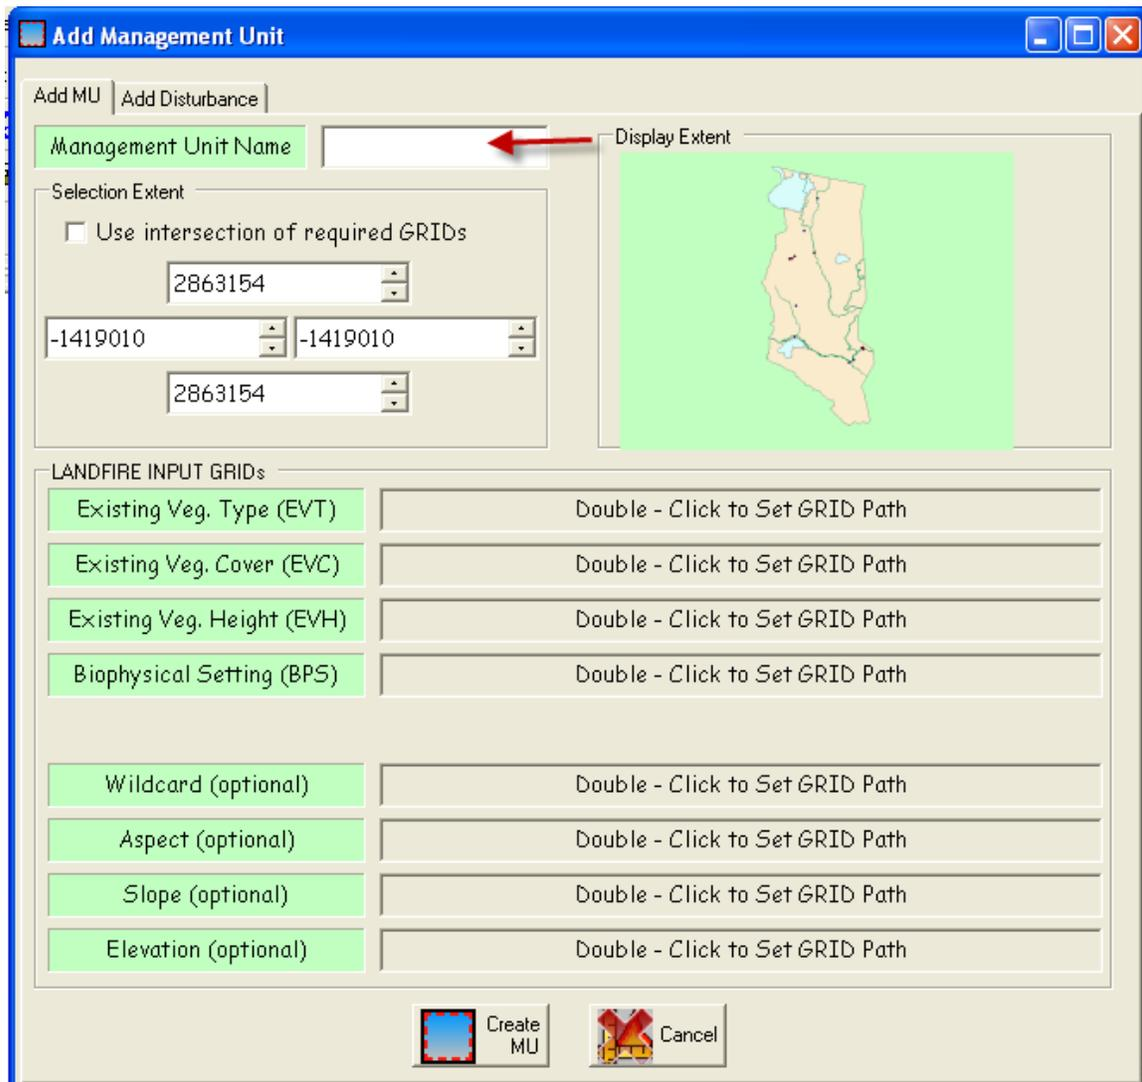

Figure 6-6. Select the Management Unit Name (**ADD MU** screen visible).
The **Add Management Unit** dialog box opens as shown with the **Add MU** tab visible (fig. 6-6).
- To use the drawing rectangle, drag your cursor to draw an extent rectangle in the “Display Extent” window of the dialog box (fig. 6-6).
- With the **Add MU** tab selected, type a **Management Unit Name** in the box provided (fig 6-6).